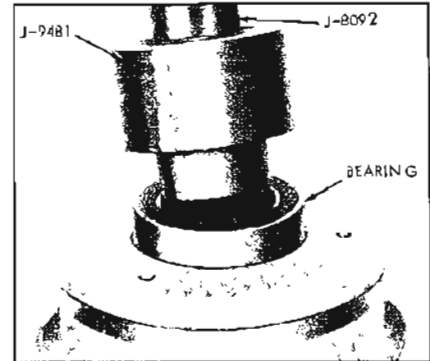

Figure 11-67—Installing Bearing into Pulley Assembly
8. Drive new bearing into pulley assembly (see Figure 11-67) with Installer (J-9481) and Handle (J-8092).